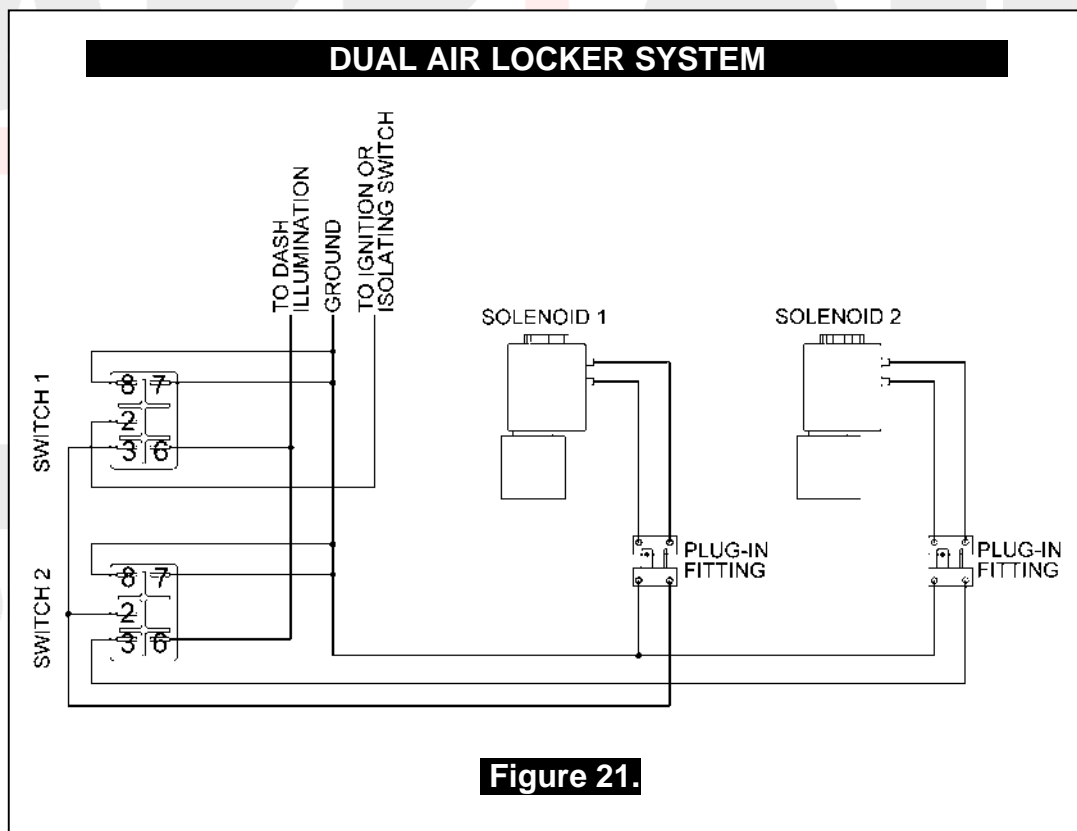

Figure 21.
- If two *Air Lockers* are to be installed in the system, ARB recommends that the switches and solenoids be wired according to figure 21. For safety reasons, this configuration allows SOLENOID 2 to be actuated only if SOLENOID 1 is already on.